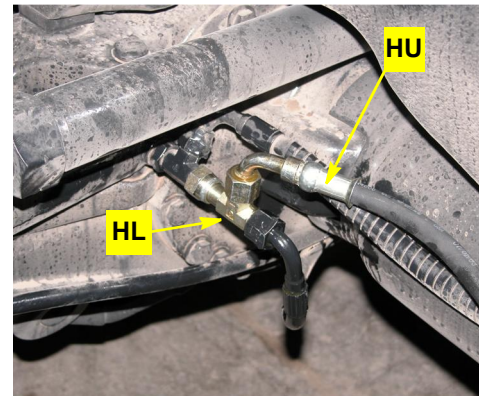

Figure 4c: Connected steering output hoses
- c. Attach the pre-routed steering output hoses **HU** to the branches of the run-tees **HL** (Figure 4c).